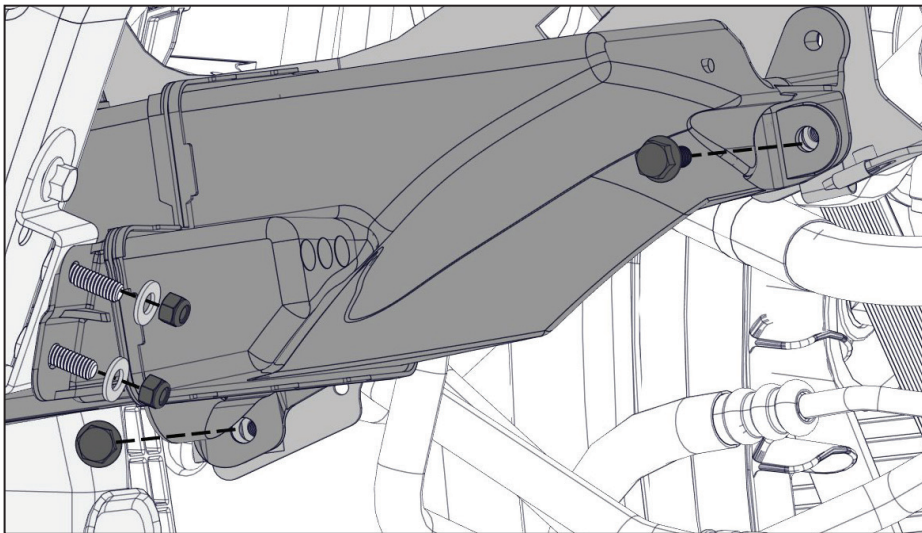

Figure 81 — Install the windshield washer bottle
- ☐ Using the supplied fasteners, install the windshield washer bottle (Figure 81).